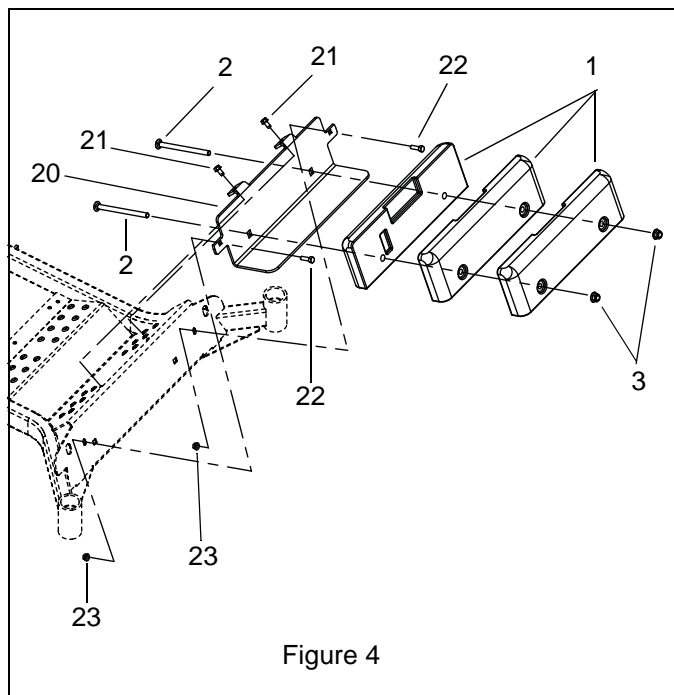

Figure 4
7. Remove cast iron weights (see figure 4 on page 10).